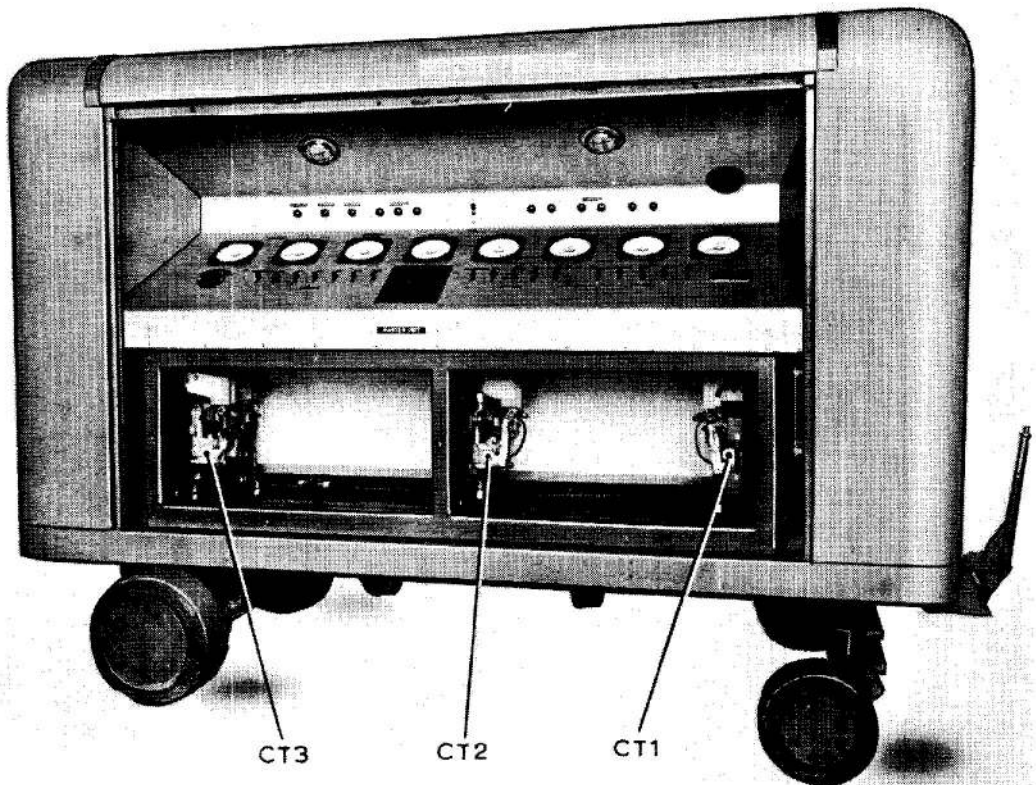

Fig.2. Load Bank with Side Panel Removed
5. At the rear of each trolley are located the fuses and load terminals which enable the external connections to be made. The contactors are located beneath the control panel as illustrated in fig.2 and together with the three cooling fans, are supplied from a 400/440V, 50c/s, 3 phase source.